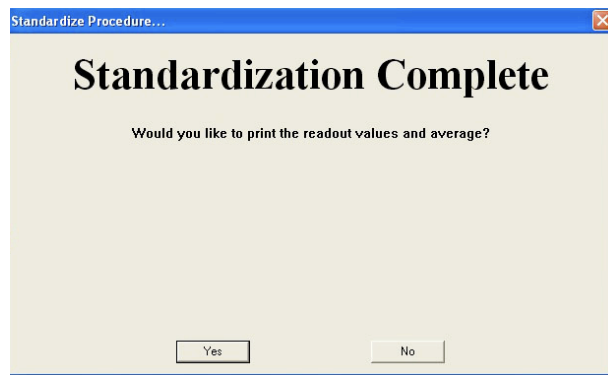

Figure 2-23, Standardization Complete, Dialog
4. The next dialog box that appears will indicate standardization is complete and inquire if the average and burns for the last standard measured should be printed, select YES, Figure 2-23.